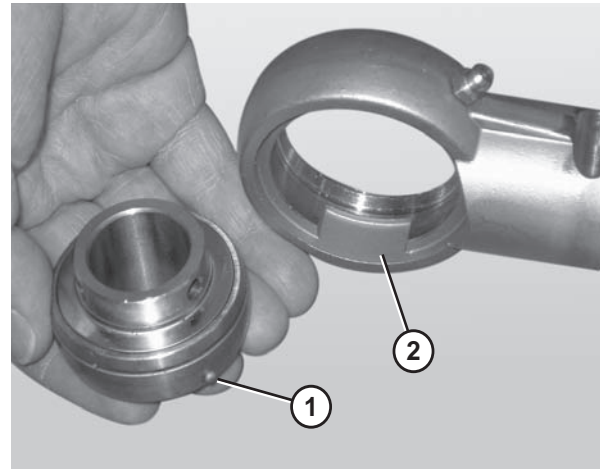

Figure 77
4. Remove the worn or damaged bearing (**Figure 77**).
*When inserting the new bearing, make sure the anti-rotation notch (**Figure 77, item 1**) on the bearing lines up with the groove inside the housing (**Figure 77, item 2**).*